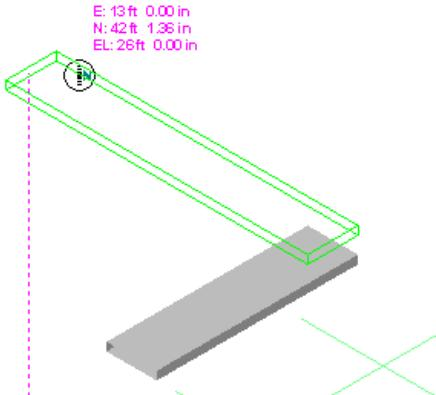

Figure 20: Second Cableway Section in North Direction
17. Position the cursor in the north N direction and click to define the end point to place **12 ft** cableway, as shown in Figure 20.